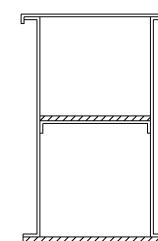

Fig. 4
7. Chain conveyors with a reinforced–double bottom should be assembled as shown in Fig 4.